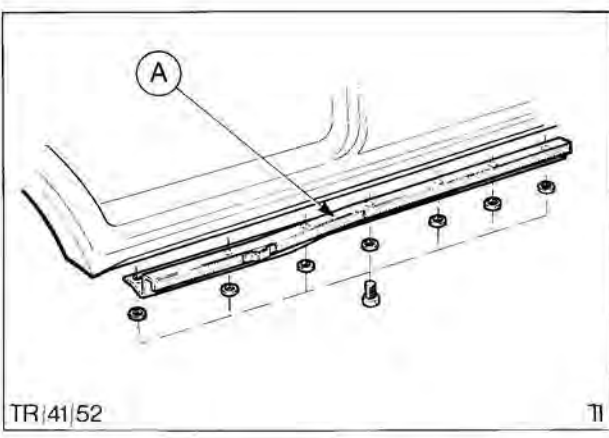

Fig. 35. Lower guide rail and striker assembly
1. Remove seven screw and flat washer assemblies securing guide rail and striker assembly to underbody, Fig. 35.